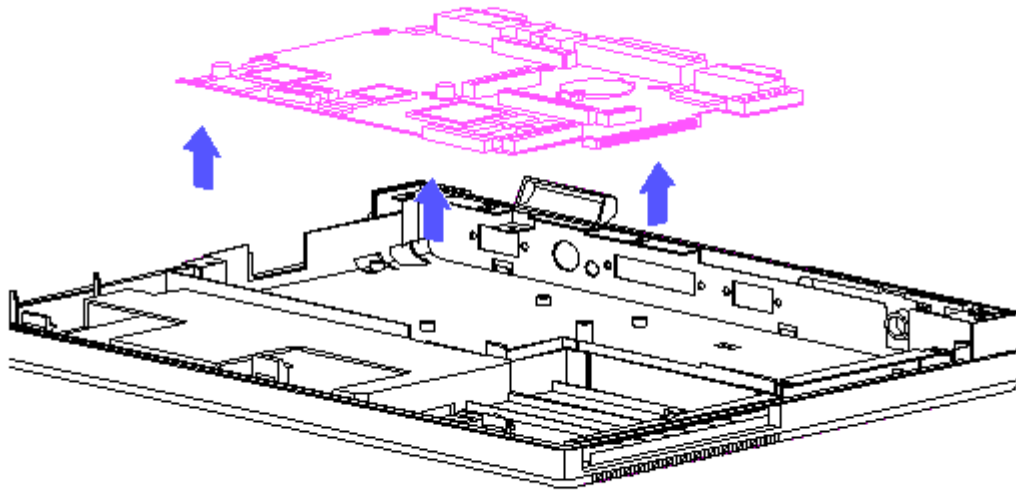

Figure 2-33. Processor Board
8. Rotate the processor board out of the system chassis (Figure 2-33).